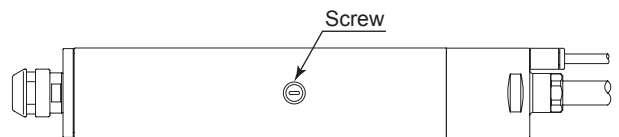

Fig. 20
- ① Turn OFF the power switch of the ONTROLLER and stop the air supply.
- ② Remove the Grease Inlet Screw on the Motor Spindle with a screw driver (Fig. 20).
- ③ Mount the grease nipple on the top of the provided dispenser. And attach the grease nipple on the topped hole removed the thread in the step.
- ④ Holding the dispenser, turn ON the power switch of the CONTROLLER and start the air supply. Set the motor rotation speed " 0 " at the CONTROLLER to avoid the motor rotation.
- ⑤ Inject grease about 0.5mℓ.